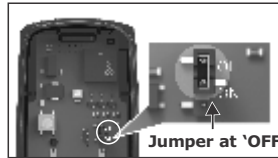

Figure 9.
16. To prevent damage, switch off the transmitter as shown in figure 9.